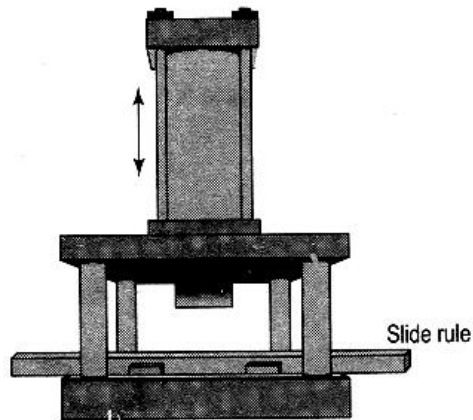

Figure 1
1. A double acting cylinder is used for embossing slide rules as shown in **Figure 1**. The cylinder extends only when two push buttons are pressed simultaneously within two seconds to ensure the complete safety of operators. The cylinder should retract immediately if any of the push button is released. Develop a pneumatic circuit to implement the control task.